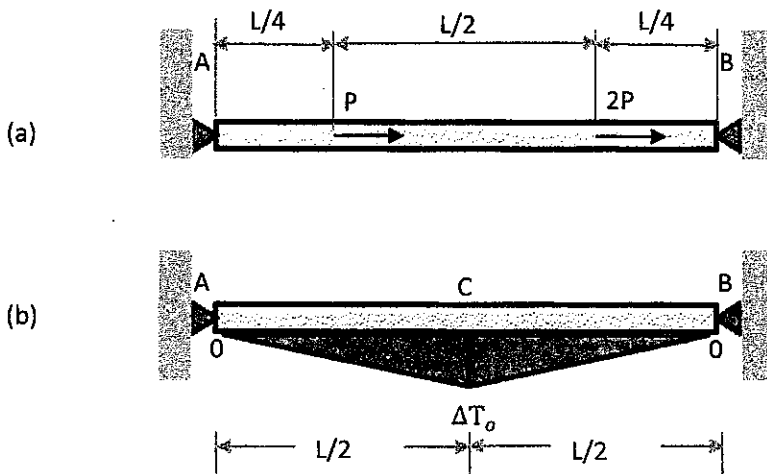

Fig. 5
5. A rod AB of Young's modulus E and cross sectional area A is hinged to the walls at ends A and B. It is initially at stress-free state. (a) When rod AB is subjected to loads as shown in Fig. 5(a), determine the reactions at two ends. (10%) (b) The rod AB is subjected to a non-uniform temperature increase, which has the maximum value ΔT_0 at the midpoint C and varies linearly along the rod axis to zero at ends A and B, as shown in Fig. 5(b). Determine the reactions at two ends, and the value of ΔT_0 that could cause the buckling of the rod. (10%)